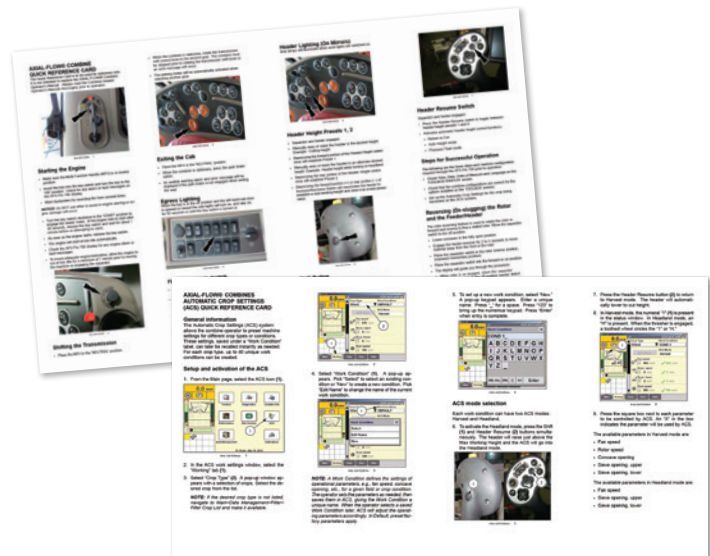

Figure 13.2
- Use the convenient Quick Start card included with the combine Operator's Manual (see figure 13.2)
- Quick Start card included with the combine supplements the Operator's Manual, with most frequently used setup and operation information (see figure 13.2)